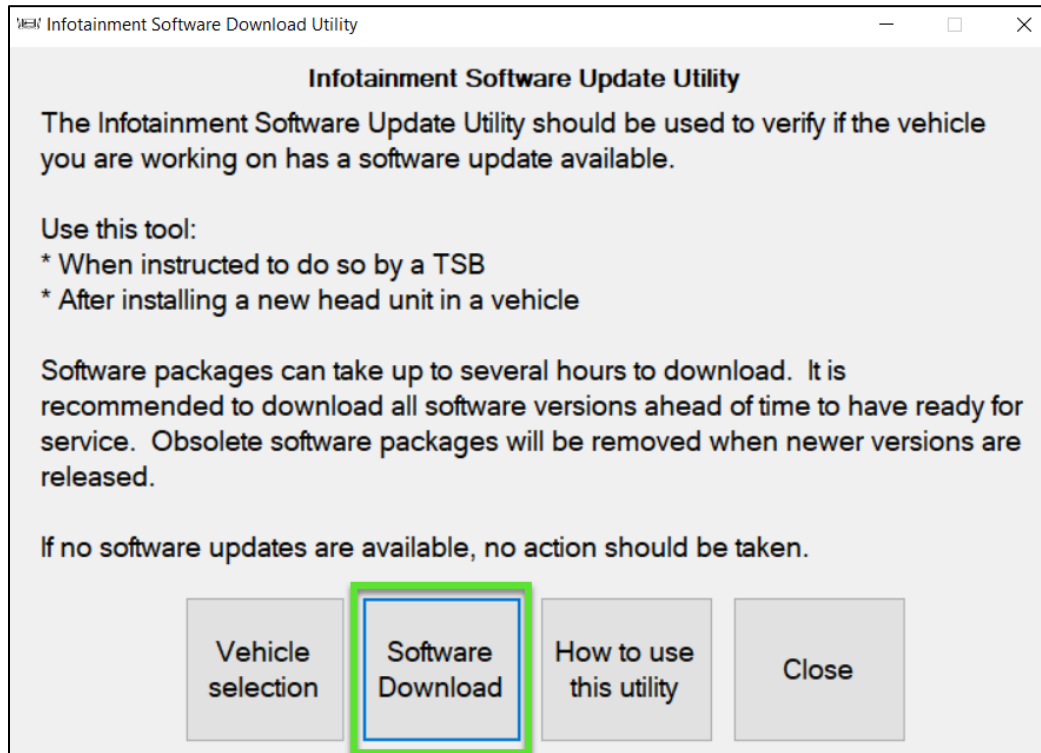

Figure 3
2. Open the **Infotainment Software Update Utility** (Figure 3 on page 4).